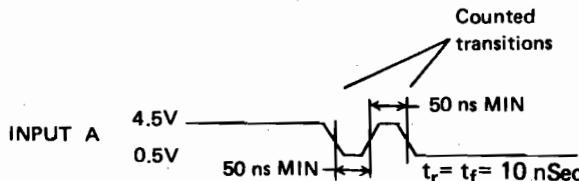

Figure 6. Waveform for Guaranteed Minimum F_A MAX
1. FIG. 6 For Frequency ratio, totalize measurements